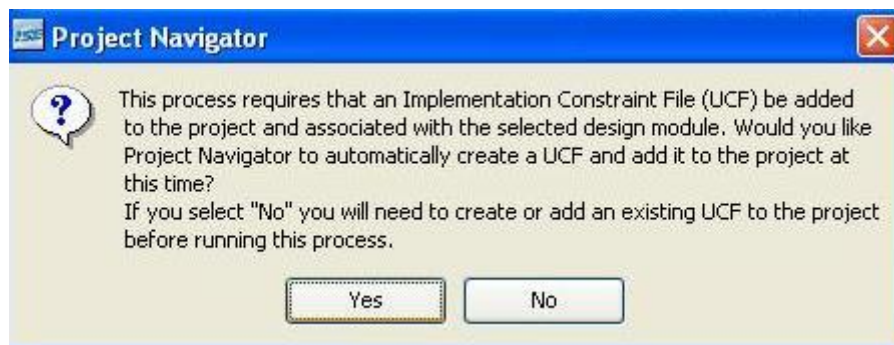

Fig 3.15: Adding UCF to the Project
3. So click **Yes** to add the user constraints file (.ucf) to the project as shown in Fig 3.15.